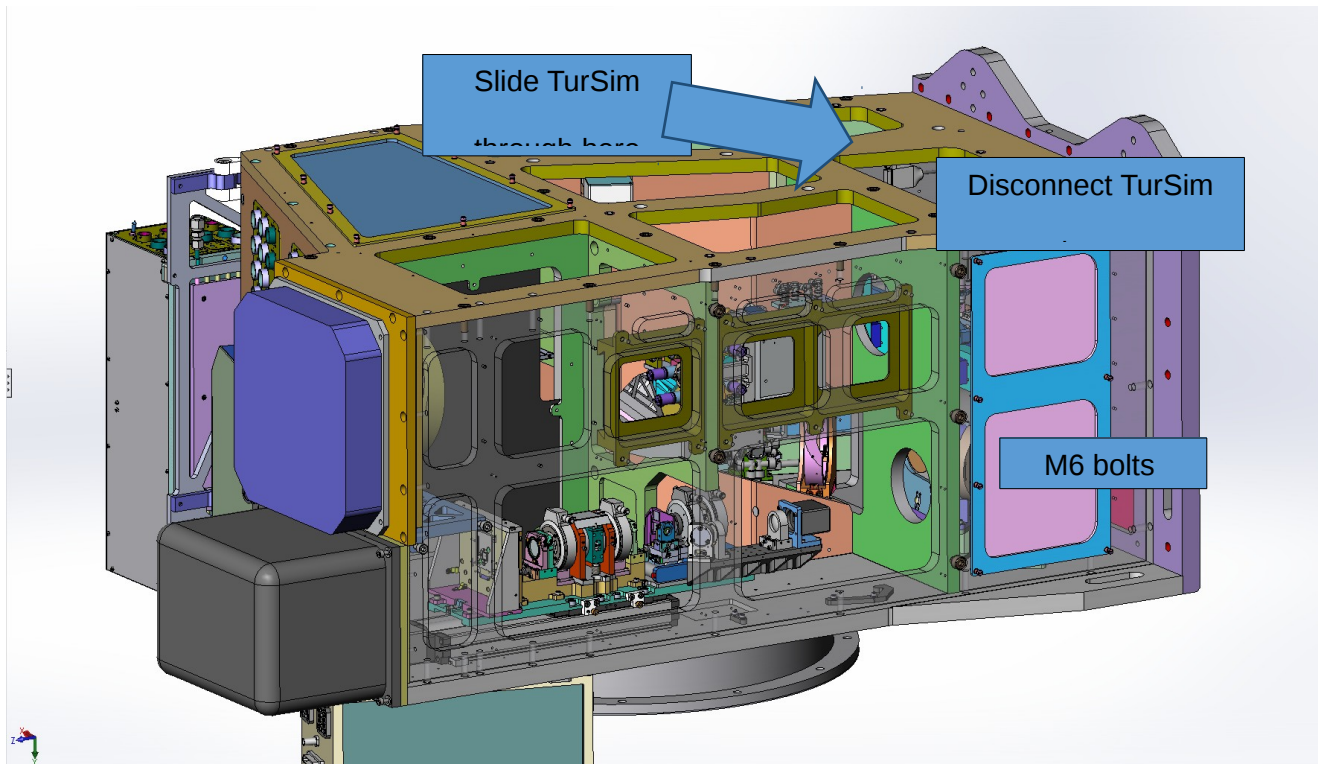

Figure 1.5. Removal of TurSim.
7. Slide TurSim through the top cover hole shown in Figure 1.5.